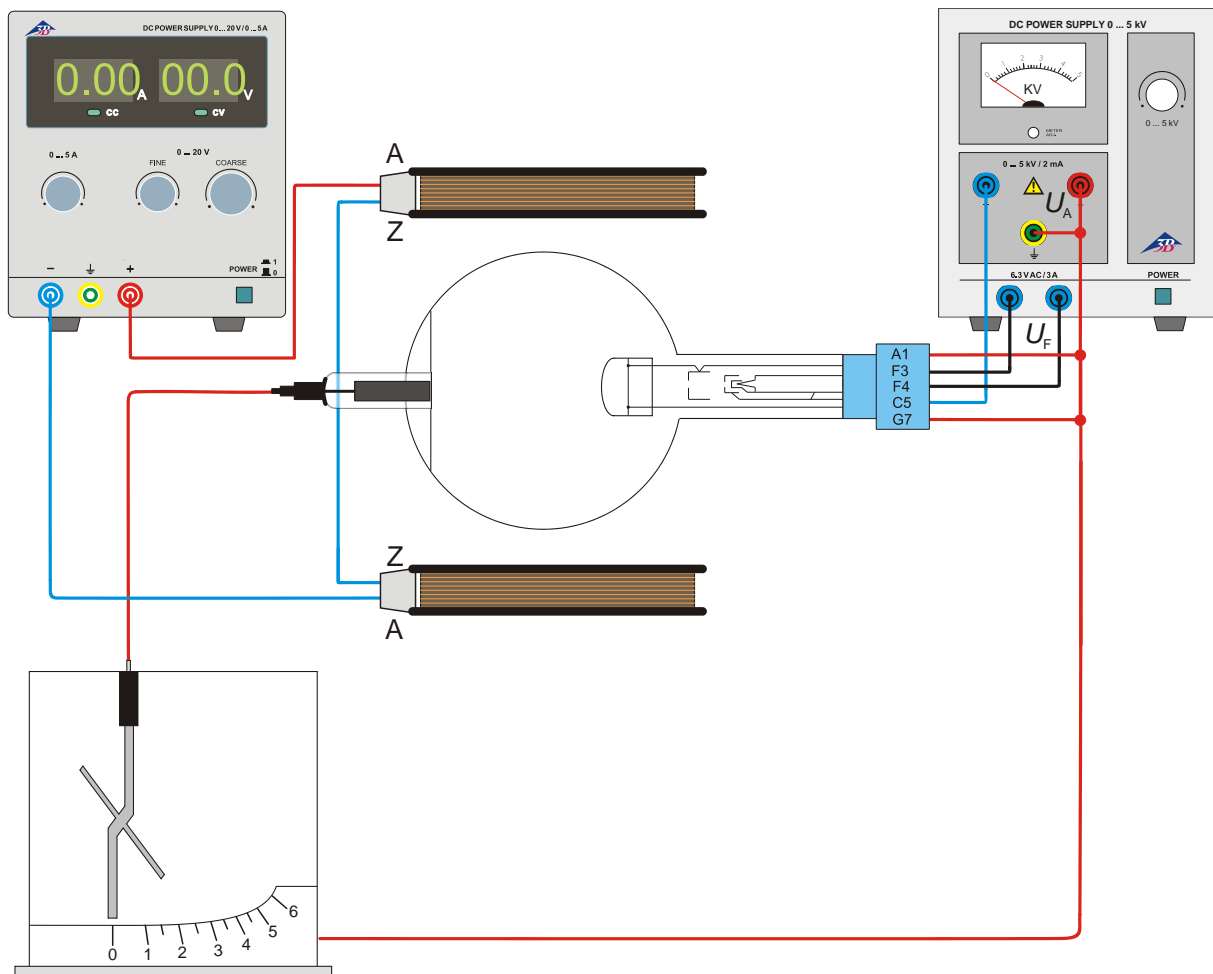

Fig. 1 Evidence of the particle nature of cathode beam and establishment of their polarity
- Set up the experiment as in fig. 1.